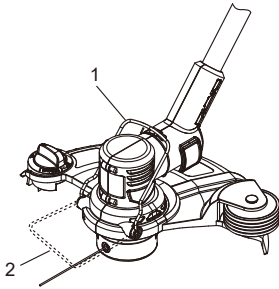

Fig. 8
To position the trimming guide (1), simply pull it down to its horizontal position (2) (Fig. 8). When the trimming guide is not being used, it should be placed in its upright position.